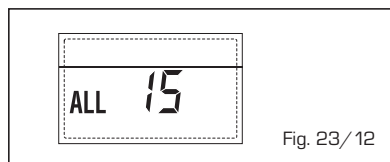

Fig. 23/12
– **ANOMALIA Sonda ESTERNA “ LAMPEGGIANTE” (fig. 23/13)**